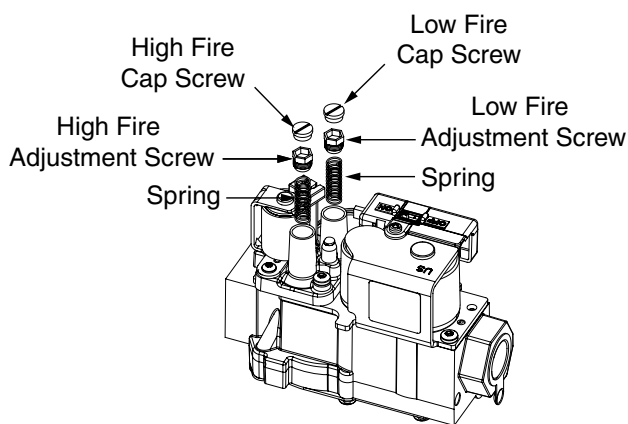

Figure 19. Pressure Regulator Spring & Adjustment Screw Removal
1. Remove the HIGH fire cap screw. See Figure 19.